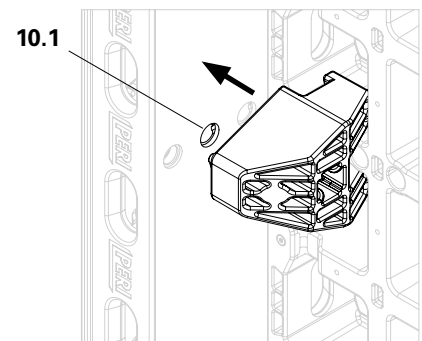

Fig. A3.09b
4. Insert the steel pin (**23.4**) of the DUO corner connector into the appropriate tie point (**10.1**) of the DMP 75 multi panel (**12.2**). (Fig. A3.09b)